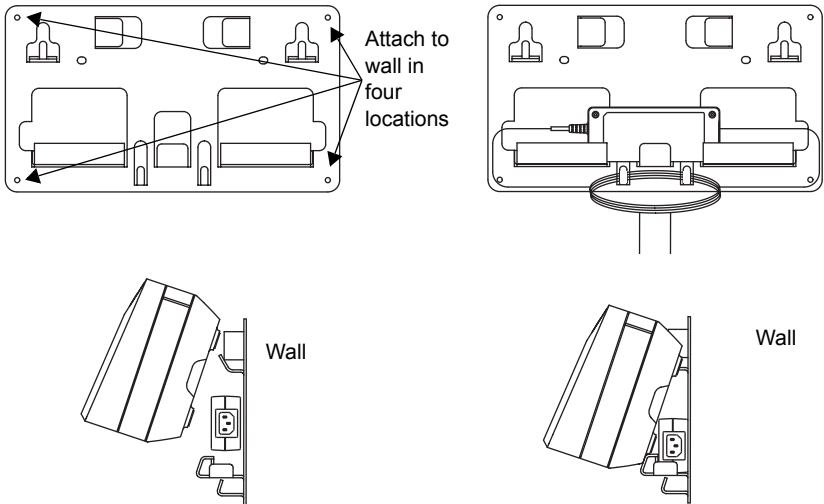

Figure 29: Mounting Multi-Unit Charger to Wall Bracket
4. Hang the Multi-Unit Charger on wall bracket as show in Figure 29.